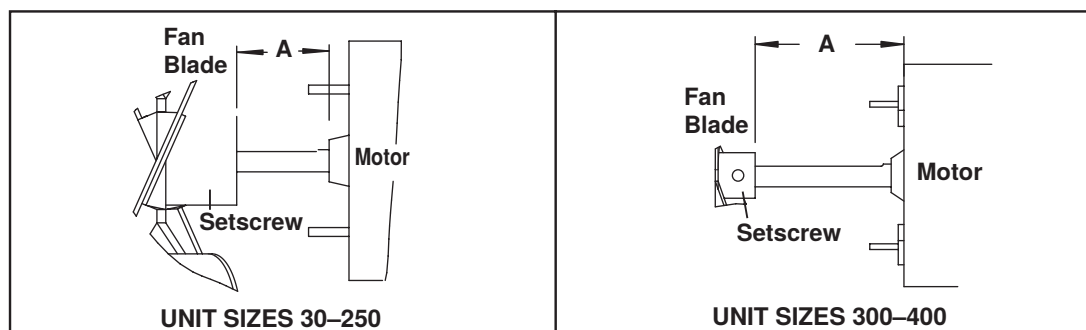

Figure 25. Fan and Motor Spacing (Refer to Table 25)
6. Ensure that fan is in proper position on shaft (see Figure 25), that setscrew is tightened in accordance with torque listed in Table 25, and that nuts securing motor to fan guard are torqued to to 30 inch-pounds.
*See Figure 25
*See Figure 25.